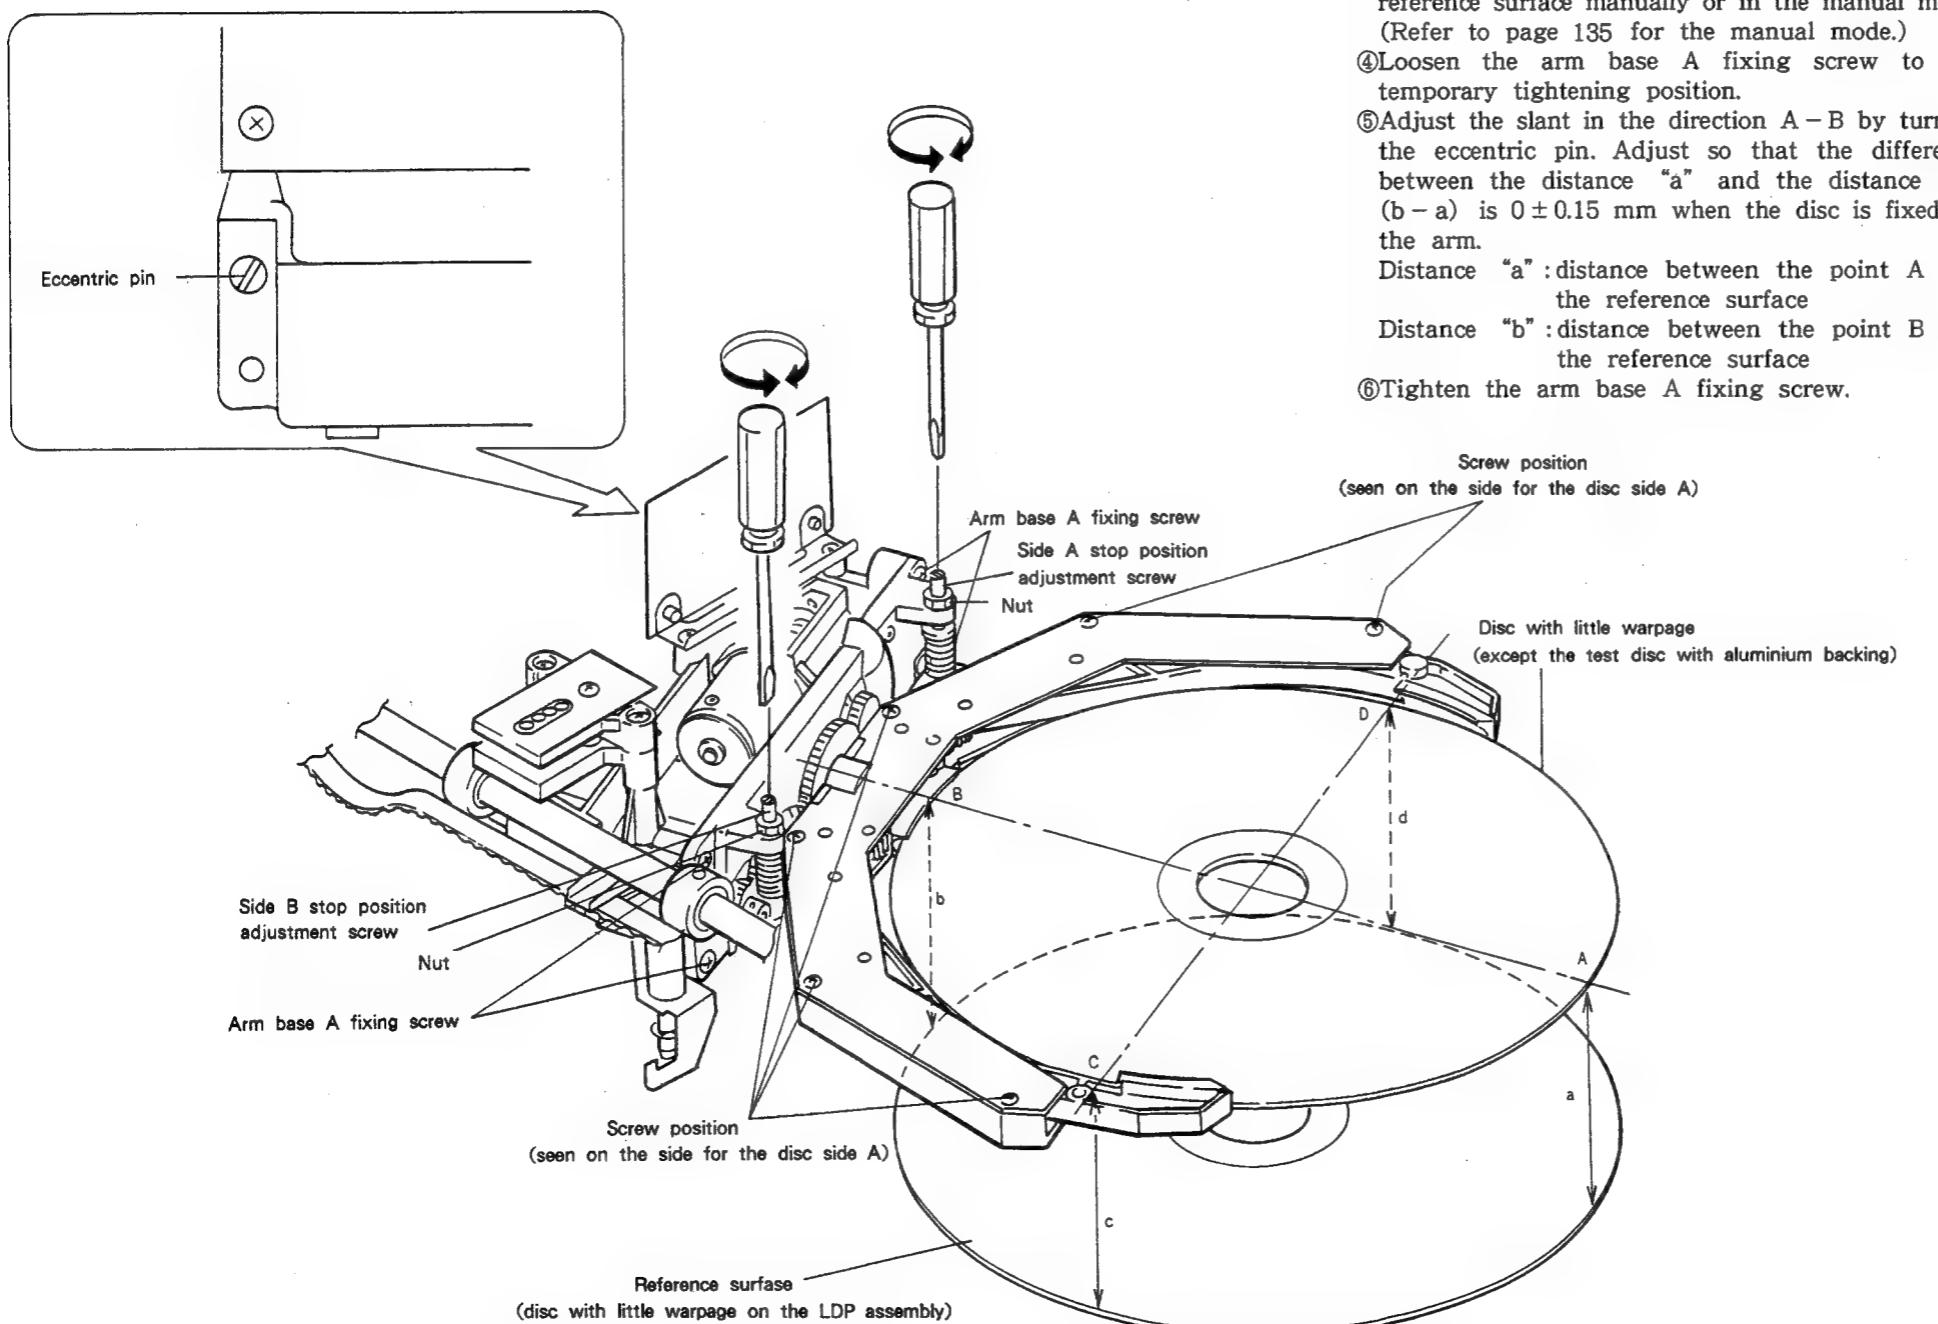

Fig. 3-5-9
3.5.5.1 Adjustment of the arm horizontal position (direction A-B in Fig. 3-5-9)
- ① Place a disc with little warpage (such as a test disc) on the LDP assembly and fix it with the clamper. The surface upper side of the disc is regarded as the reference surface. (Or, remove the LDP assembly and place a flat plate on the three bosses for the LDP assembly attachment. The surface of the plate is regarded as the reference surface.)
- ② Place a disc with little warpage (except a test disc with aluminium backing since it is heavier than a normal disc) so that the disc is fixed by the arm.
- ③ Move the arm a few centimeters above the reference surface manually or in the manual mode. (Refer to page 135 for the manual mode.)
- ④ Loosen the arm base A fixing screw to the temporary tightening position.
- ⑤ Adjust the slant in the direction A-B by turning the eccentric pin. Adjust so that the difference between the distance "a" and the distance "b" (b-a) is 0 ± 0.15 mm when the disc is fixed by the arm.
- ⑥ Tighten the arm base A fixing screw.